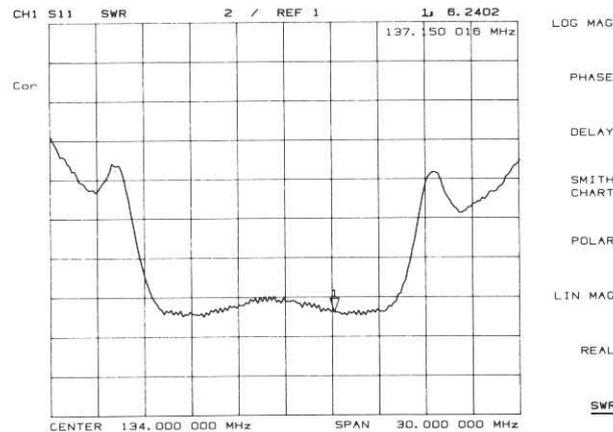

Figure 4-17. Typical SWR Display
**[SWR]** (SWR) reformats a reflection measurement into its equivalent SWR (standing wave ratio) value (Figure 4-17). SWR is equivalent to  $(1+\rho)/(1-\rho)$ , where  $\rho$  is the reflection coefficient. Note that the results are valid only for reflection measurements. If the SWR format is used for measurements of S21 or S12 the results are not valid.